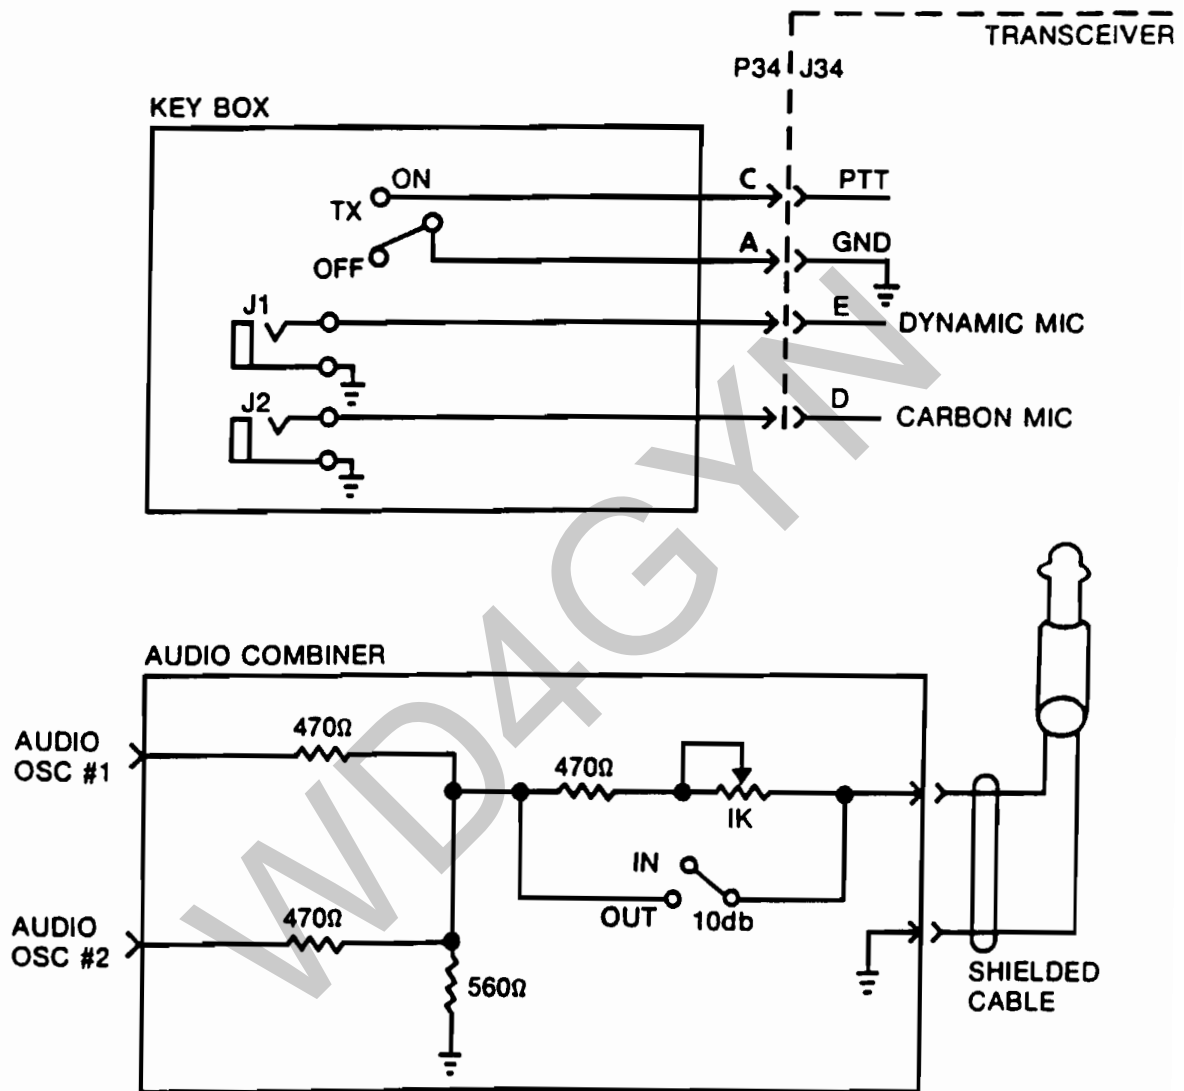

Figure 5.6 AUDIO COMBINER AND KEY BOX
Audio Combiner and Key box (user built)	See Figure 5.6
- 2) Connect the Audio Combiner/Key Box (Figure 5.6) to the front panel microphone connector. Be